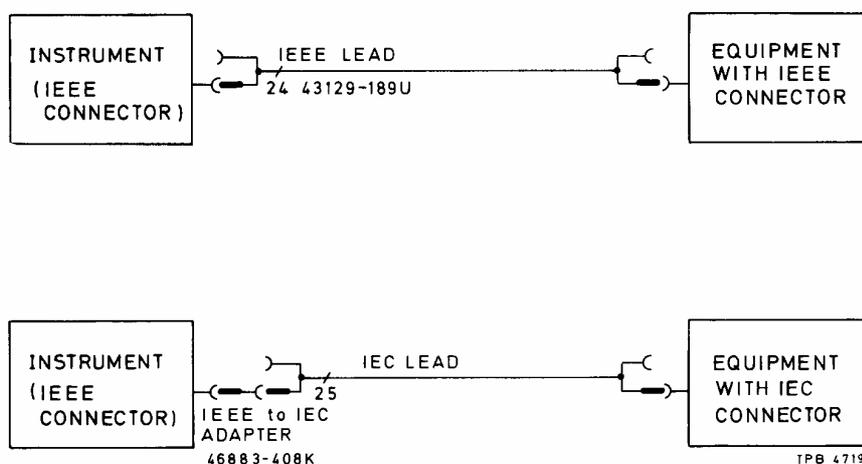

Fig. 2-1 GPIB interconnections.
- (7) Connection to other equipment which has a 24-way bus connector to IEEE Standard 488 can be made with the GPIB lead assembly 43129-189U, available as an optional accessory. An IEEE-to-IEC adapter 46883-408K is also available for interfacing with systems using a 25-way bus connector to IEC Recommendation 625—see Fig 2-1.